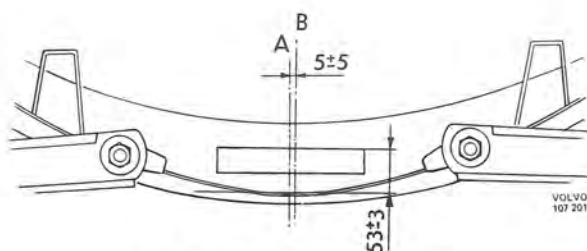
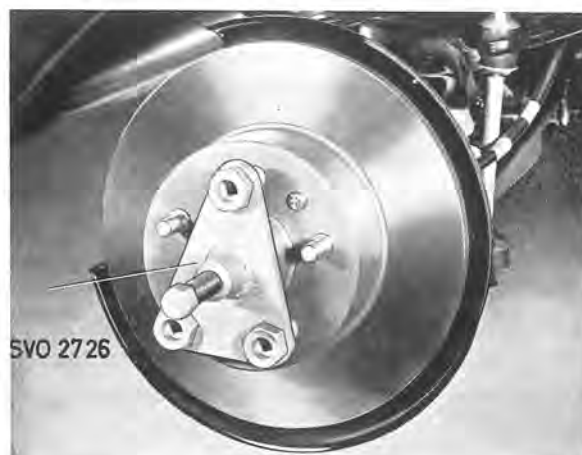

Fig. 6-17. Location of rubber buffer
Fig. 6-18. Removing front wheel hub
If the rubber buffer for the engine suspension travel limit is to be replaced, place the new one on the reverse side of the front axle member as shown in Fig. 6-17.
2. Remove the grease cap with tool 2715, see Fig. 6-17. Remove the split pin and castle nut. Pull off the hub with puller 2726, see Fig. 6-18. If necessary pull off the inner bearing from the stub axle tool 2722, see 6-19.